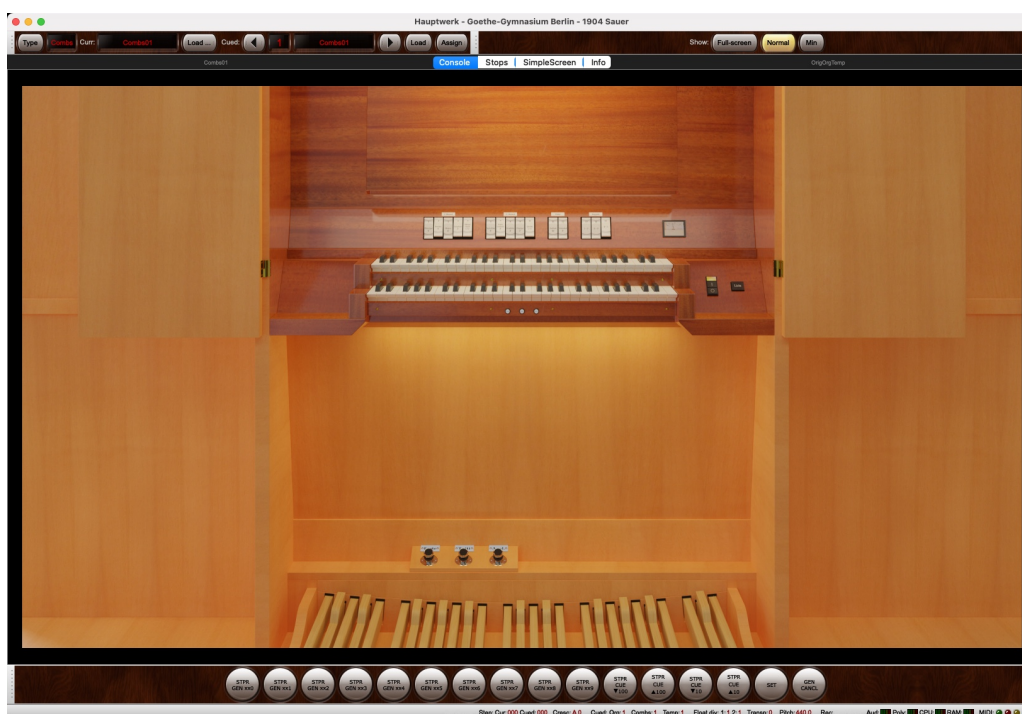

Figure 2: Console screen
- Console (fig. 2 on the following page)
From the console screen the keyboards can be connected to a MIDI console via MIDI learn (figure 2 on the following page). MIDI-learn can be initiated by right-clicking on any virtual control and then choosing '*Auto-detect ...*'. On the console screen keyboards, stops, and pistons can be MIDI learned. The large illuminated button on the right hand side of the manuals is to switch off the **Blower**.